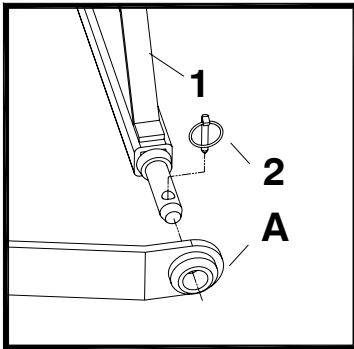

Figure 1
- A. Insert 3 Pt. Hitch's Right Side Arm (A) into the 3 Pt. Frame's (1) Hitch Post. Secure the Side Arm and Hitch Post with (2) Lynch Pin. Repeat this procedure to secure the Left Side Arm and Hitch Post. As shown in Figure 1